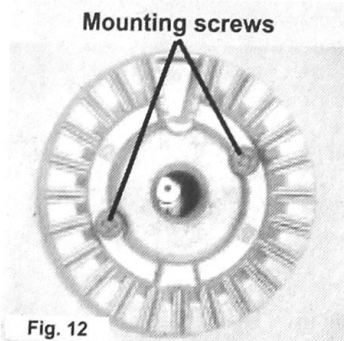

Fig. 12
- If the opening in the burner is too small to allow removal of the orifice, remove the burner as follows: Remove 2 screws using #1 square tip driver and remove Burner Heads (Figs 12). **NOTE - Some models may have 3/16" hex head screws instead of square drive screws.**